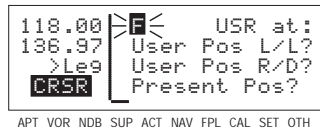

Figure 4-80
2. Use the right inner knob to select the first character of the identifier (figure 4-80). Remember that when the cursor is on, the right inner knob changes the character and the right outer knob moves the cursor around.